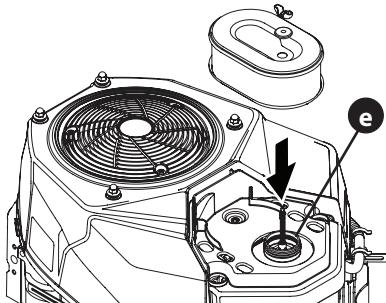

Figure 11
3. Measure the plug gap with a feeler gauge. Correct as necessary by bending electrode (c) (Figure 11). The gap should be set to 0.024-0.031 in (0.61-0.78 mm).